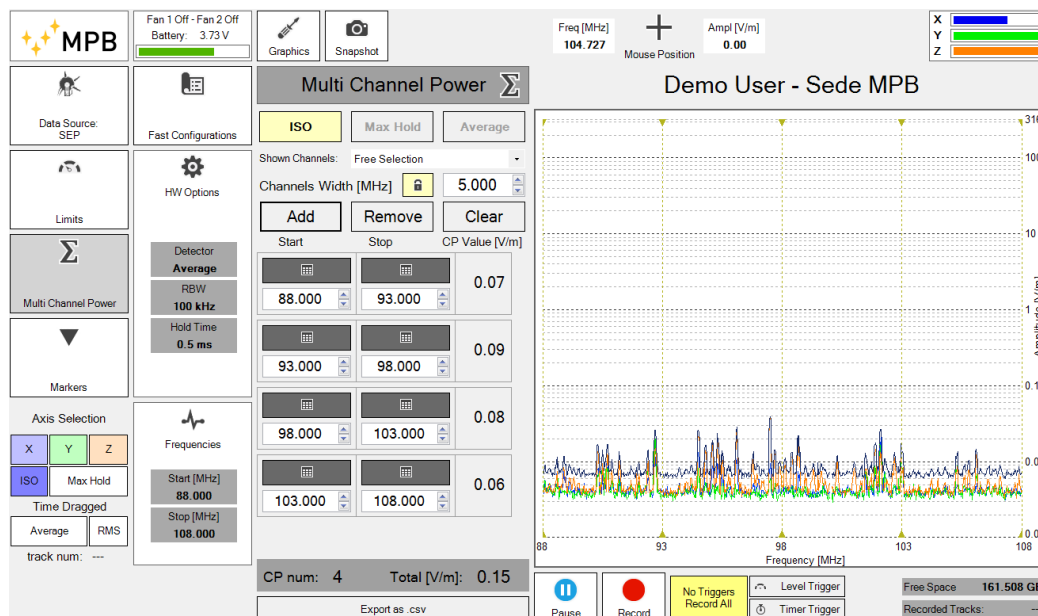

Figure 26 Multi Channel Power(1)
The “Multi Channel Power (MCP)” allows performing the calculation of the values of the integrated field of more frequency ranges at once. In the current software version are allowed up to 50 channel powers in the same scansion. The user can enable or disable the calculation, set the center of the range to be measured, the width (from a minimum of 1 kHz up to 20 MHz) and read the corresponding value in V/m. Please note that this function is allowed only in “Band2”. On the top of the panel, the user can choose on which track to perform the MCP measurement. The “Max Hold”, “Average” and “RMS” measurement can be enabled only if they were enabled in the axis selection. Besides the axis selection, a combobox is present with a “Shown Channels” dropdown list: by default a “Free Selection” mode is enabled: the dropdown will be populated with the name of the preferred personal channel list, that will be calculated only in case the selected frequencies belong to the appearing frequency range: the calculation will be performed only for the channel powers inside the spectrum, otherwise the value will be zero (see 4.5.2). By selecting in the dropdown a file name, the software will try to adapt available channels in the ongoing scan. The “Channels width”, establishes the default width of each added channel power. Near the numeric selection, there is a lock button; if enabled, the software will try to keep the channel width chosen. Therefore, for example by changing a single channel start, the stop will keep the selected width. Please note that with the lock unchecked, the user will be free to edit starts and stops individually. About Figure 26 Multi Channel Power(1) please note “Add”, “Remove” and “Clear” buttons and the room to insert the bandwidth. By pushing the “Add” button, the MCP calculation will be automatically enabled, and will set the start of the first CP on the start frequency of the session and the stop on the frequency resulting from adding